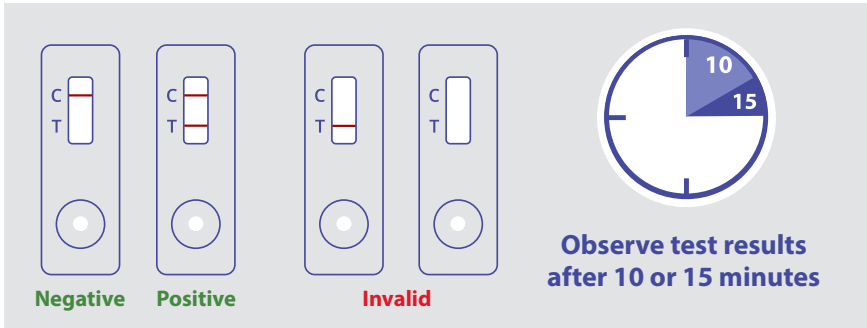

Figure 1. Test Outcomes
7.2.1. A negative result is indicated by the development of a strong control line only (upper line "C"). A negative result will not develop color at the test line (lower line). An example of a negative result is displayed in **Figure 1** labeled "**Negative**".
7.2.2. A positive result will develop at the test line (lower line "T") in addition to the control line (upper line "C"). The strength of the test line development will be dependent on the amount of tree nut protein present in the sample; any visible line is considered to be a positive result. An example of a positive result is displayed in **Figure 1** labeled "**Positive**".
7.2.3. Failure of the control line to appear regardless of test line development is an invalid result. In addition, any line malformation visible on the membrane denotes an invalid test. Examples of malformations would be dark spots, gaps or incomplete line development. Examples of invalid results are displayed in **Figure 1** labeled "**Invalid**". In the event of an invalid test, the procedure should be repeated using a new test device.